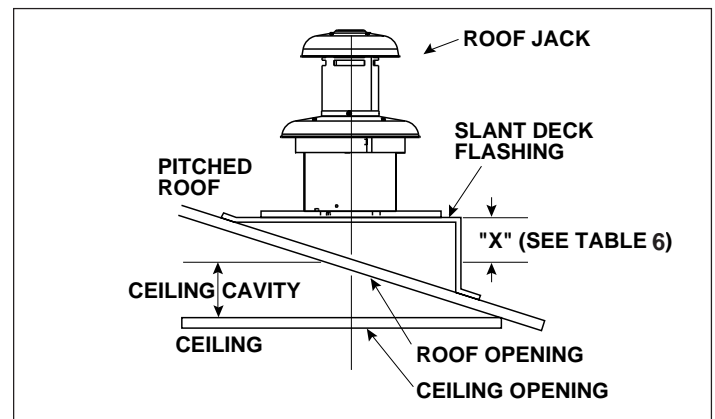

Figure 2.
- c. Add dimensions A + B (and X from Table 3 and Figure 2 if slant deck flashing is used). The total length of (A + B + X) must be within the minimum and maximum range of one of the Roof Jacks listed in Table 3.